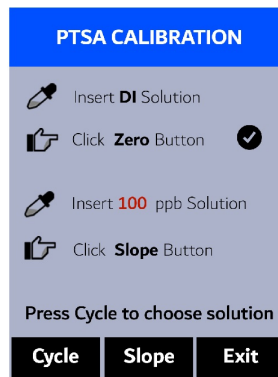

Figure 4.
6. If the calibration succeeds, a checkmark (  ) and instructions for the slope calibration will appear (Figure 4).